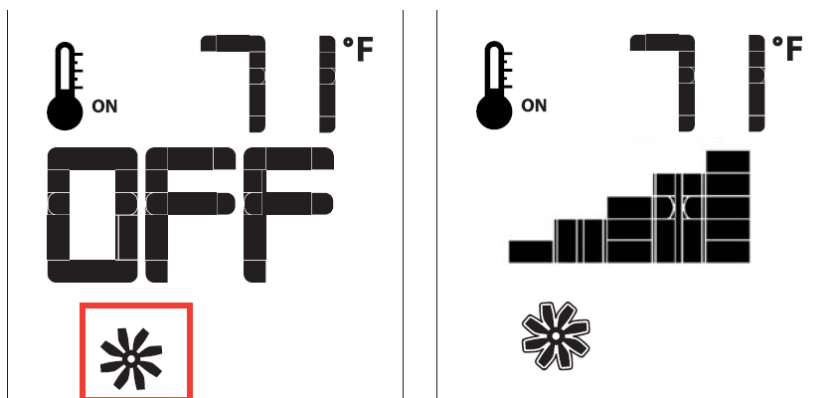

Figure 13: Fan Control
If the Heater is equipped with a hot air circulating fan, the speed of the fan can be controlled by the Proflame2 System. The fan speed can be adjusted through six (6) speeds. To activate this function use the Mode Key (Fig. 1) to index to the fan control icon (Fig. 13). Use the Up/Down Arrow Keys (Fig. 1) to turn on, off or adjust the fan speed (Fig. 13). A single “beep” will confirm reception of the command.